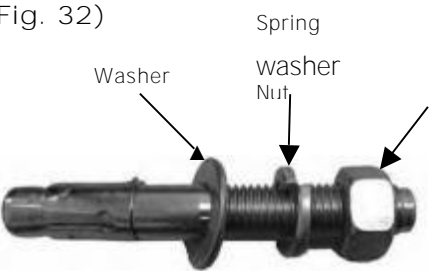

Fig.32
1. 1. Prepare the anchor bolts (See Fig. 32)